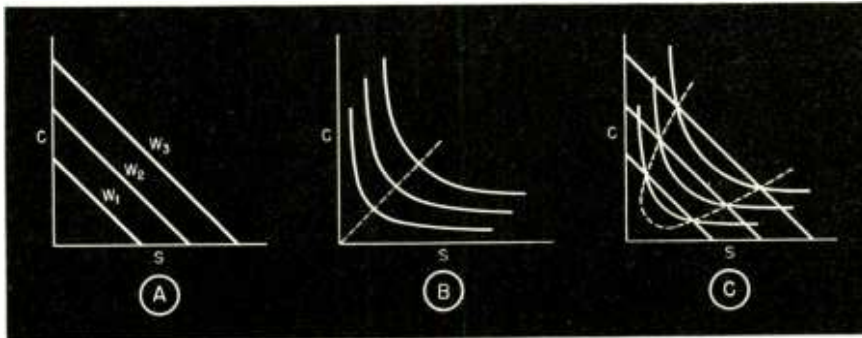

FIG. 1
If (1) is plotted with  $C$  as ordinate and  $S$  as abscissa, we have a family of curves as shown in Fig. 1-A. And if (2) is plotted we have a family of curves as shown in Fig. 1-B. If these two figures are superimposed we have Fig. 1-C. Obviously the intersections represent the percentage modulation or ratio of carrier amplitude to sideband amplitude. If we solve (1) and (2) for  $C$  and  $S$  we find: